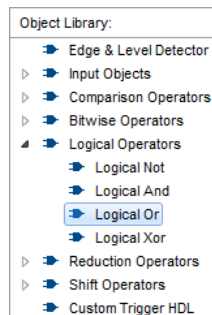

Figure 19. Select the Logical Or operator from the Object Library window and drag this into the editing window.
- We now need to add the necessary logical operators to our circuit. We will need an OR gate as well as three edge level detectors. To access the OR gate, click on the plus sign next to Logical Operators in the Object Library and select Logical Or, as in Figure 19. Then drag and drop the operator into the editing window.